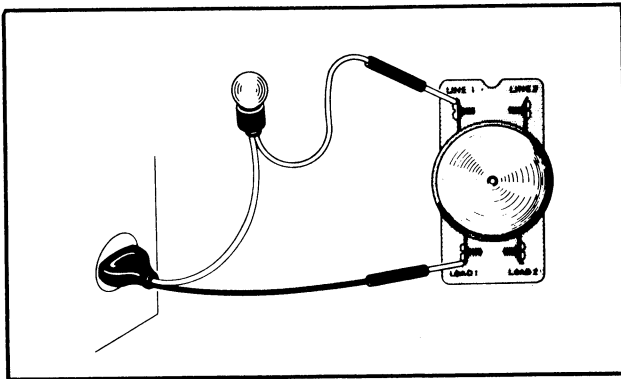

Figure 10D
5. Place probes on Line 1 and Load 1, *Figure 10D*. Again there should be continuity, and lamp should light.